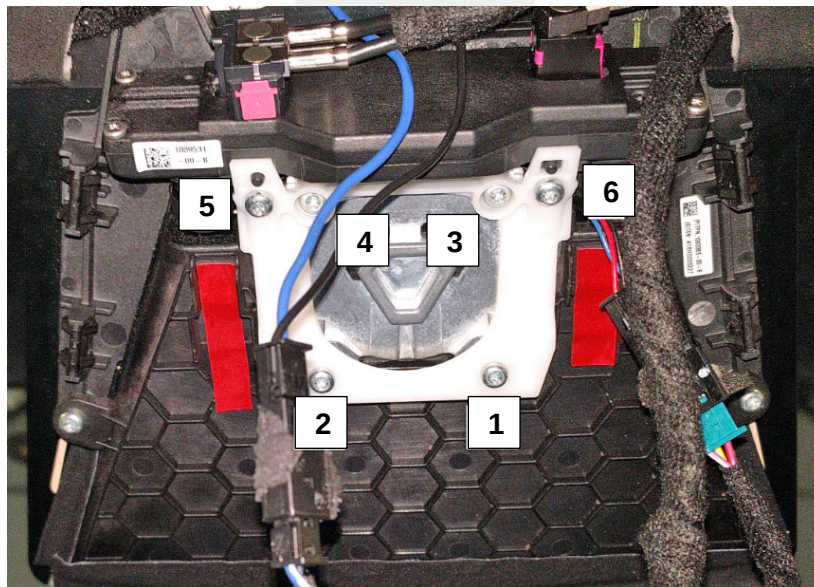

Figure 5
7. Install the 6 fasteners in the order shown to secure the mirror mount plate and pitch carrier to the glare shield and camera (torque 0.8 Nm) (Figure 5).